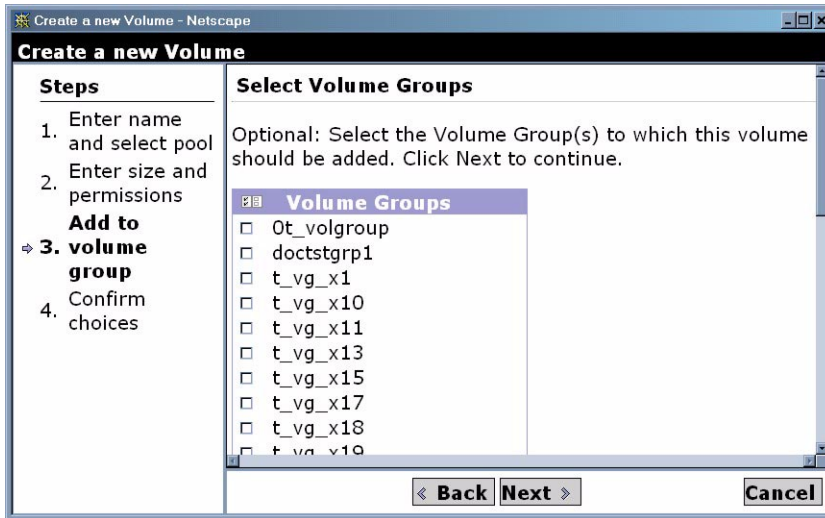

FIGURE 6-23 New Volume Wizard—Select Volume Group Page
12. Click Next and select the Volume Group to which to add the volume as shown in FIGURE 6-23.